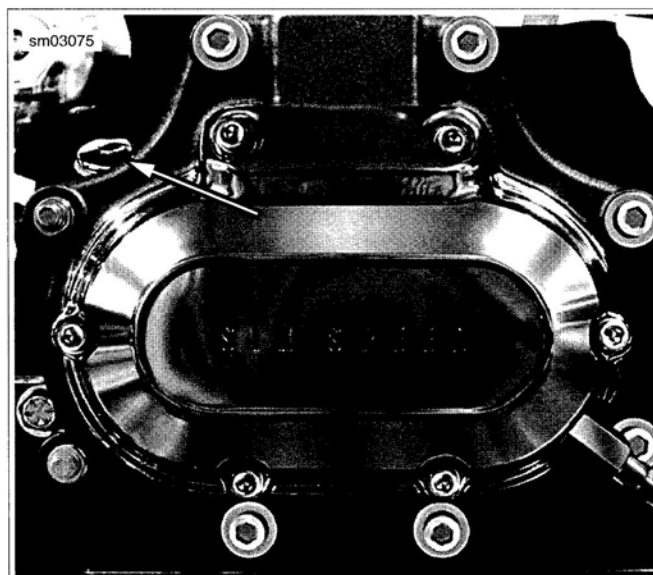

Figure 1-15. Transmission Lubricant Check/Fill
1. See Figure 1-15. Remove transmission filler plug.